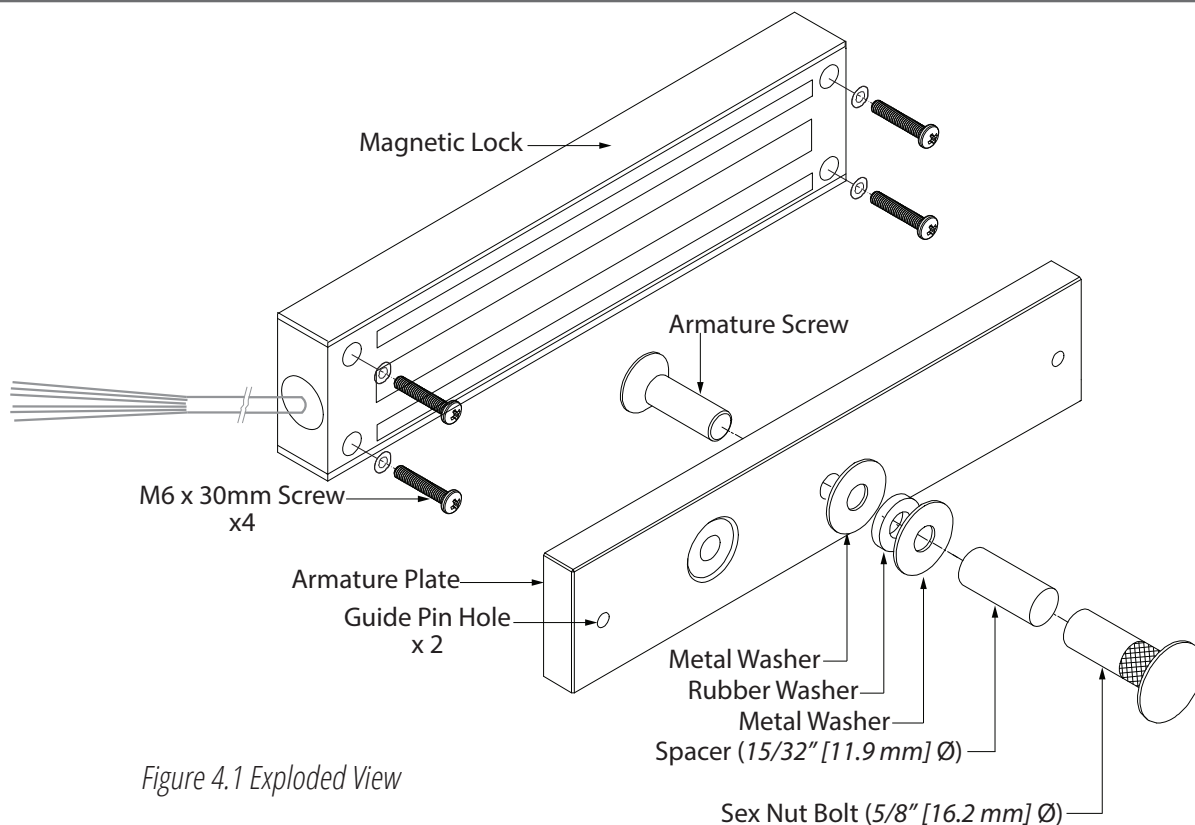

Figure 4.1 Exploded View
4. Mark and drill holes. Install magnet and armature plate with screws installed finger tight at first. Verify all parts align correctly, then firmly tighten screws. (Figure 4.1)